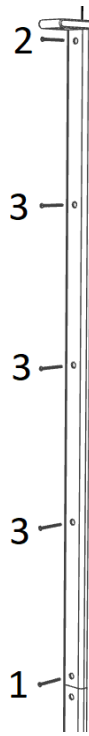

Figure 218: ***Flip Toggle Installation***
29. Insert one of the flip toggle screws into the wall through the aligned bottom hole of the upper post and the top hole of the post coupler (Position 1 in Figure 218).
31. Insert one of the flip toggle screws into the wall through the aligned top hole of the upper post and the hole of the shelf bracket. (Position 2 in Figure 218).
33. Insert flip toggle screws into the remaining holes on the upper post and tighten. (Position 3 in Figure 218).